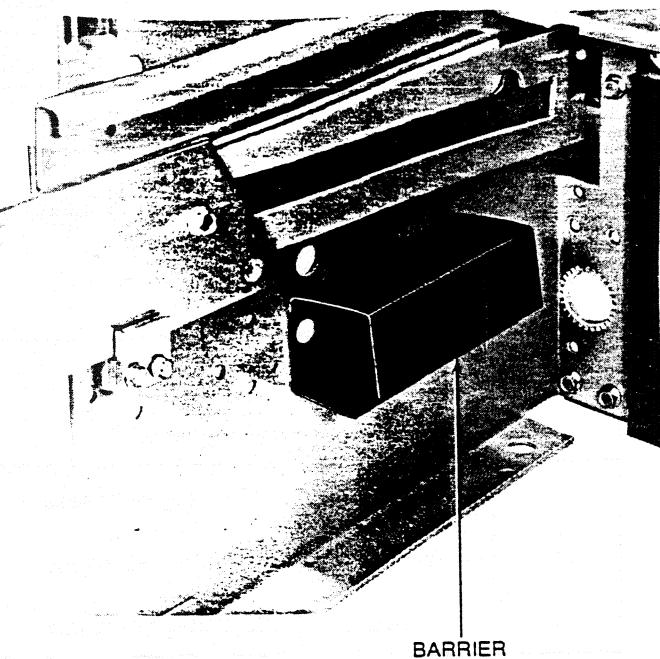

Figure 12
1. The barrier shown in Fig. 12 is factory supplied.